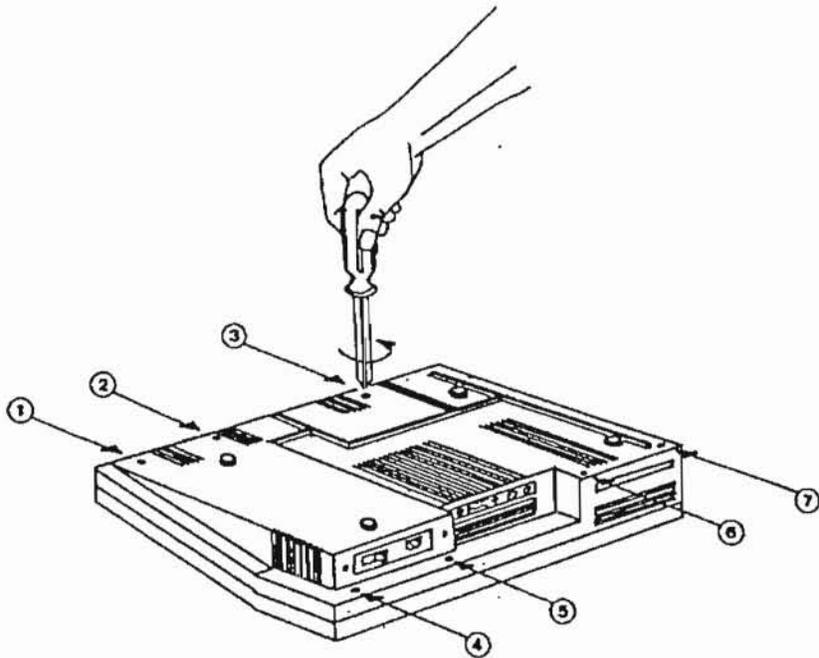

FIGURE 2
- Step 4: Using a Philips screwdriver, remove the seven mounting screws on the bottom of the machine as pictured in Figure 2.